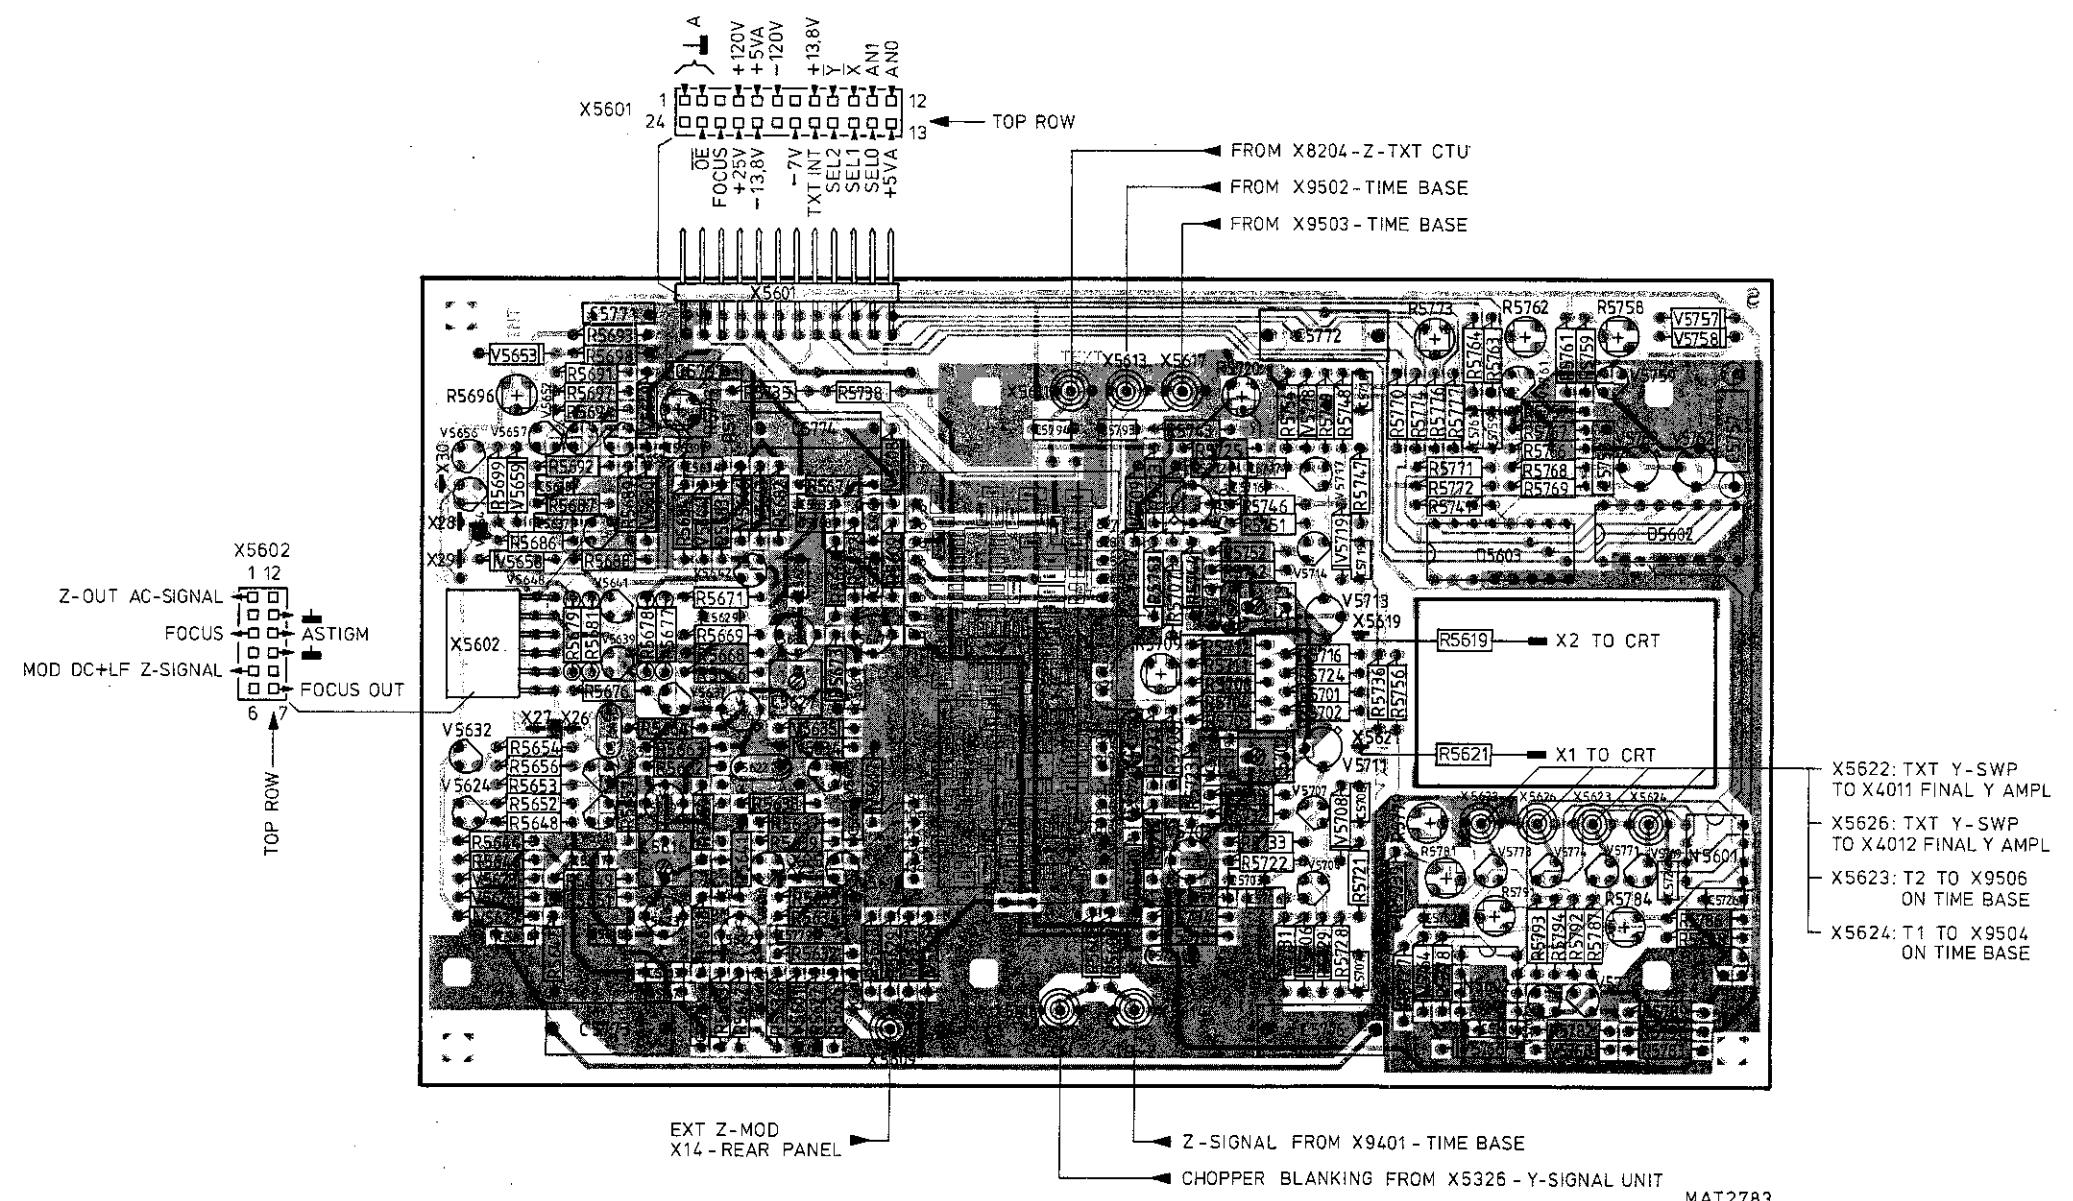

Fig. 16.2. Final X/Z amplifier, p.c.b. lay-out.
16.1. CIRCUIT DESCRIPTION OF INTENSITY AND FOCUSING (See fig.16.2.)